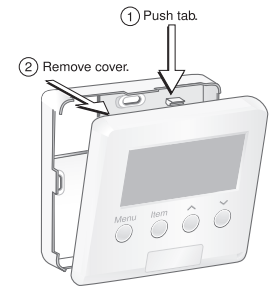

Figure 1:
2. Push the screwdriver against the plastic tab and pull the top of the front cover so that it pivots around the bottom edge of the base. (See **Figure 1**.)